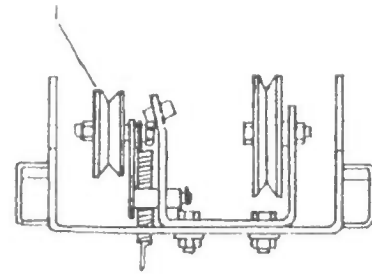

FIGURE 8
- a) Replace the flat pulley idler kit (fig.5, item 1) with the V-pulley idler kit (fig.8, item 1) and install on the right hand side as shown in fig.8.